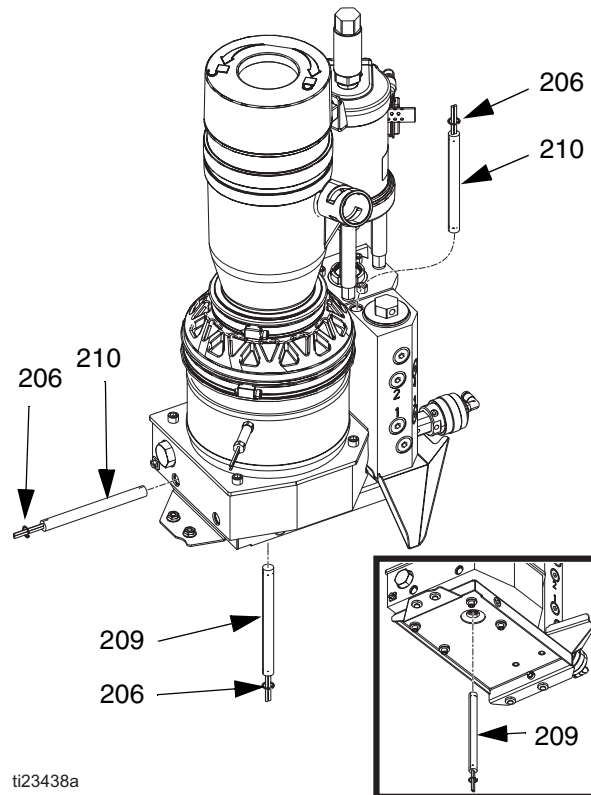

FIG. 44
Disassembly (see FIG. 44):
Reassembly (see FIG. 44):
2. Install heater rod then install heater rod retaining ring (206). See FIG. 44.